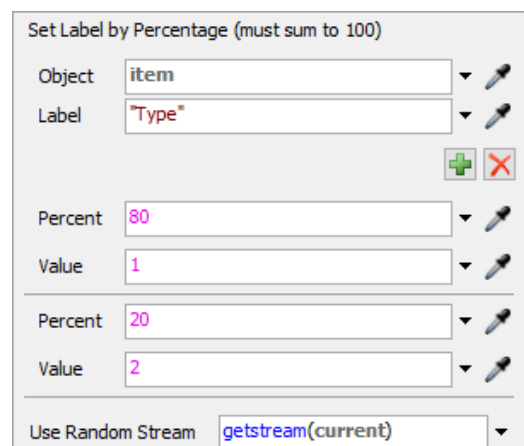

Fig. 9 Option *Set Label by Percentage*
3. **Set Label by Percentage** – allows you to change the label value based on the percentage distribution. Use the green button to add more cases (Fig. 9).